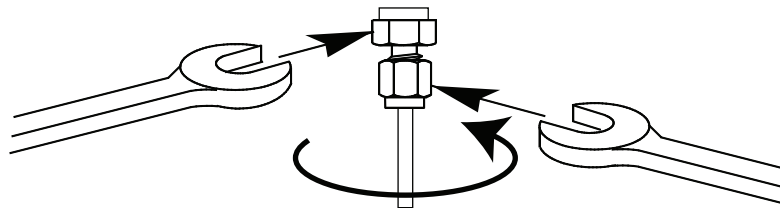

Figure 17. Final tightening
- 7 For 1/8-inch Swagelok fittings, use a pair of wrenches to tighten the fitting 3/4 of a turn. See Figure 17.